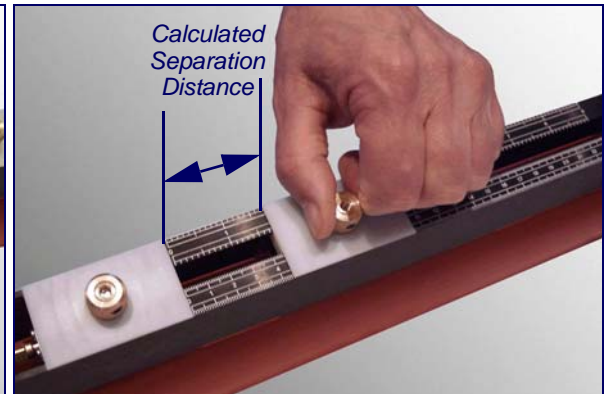

Figure 2.12
8. Position the upstream transducer so that its leading face aligns with '0' on the ruler scale then lower the transducer onto the pipe by turning the thumb screw anti-clockwise, as shown in Figure 2.12.